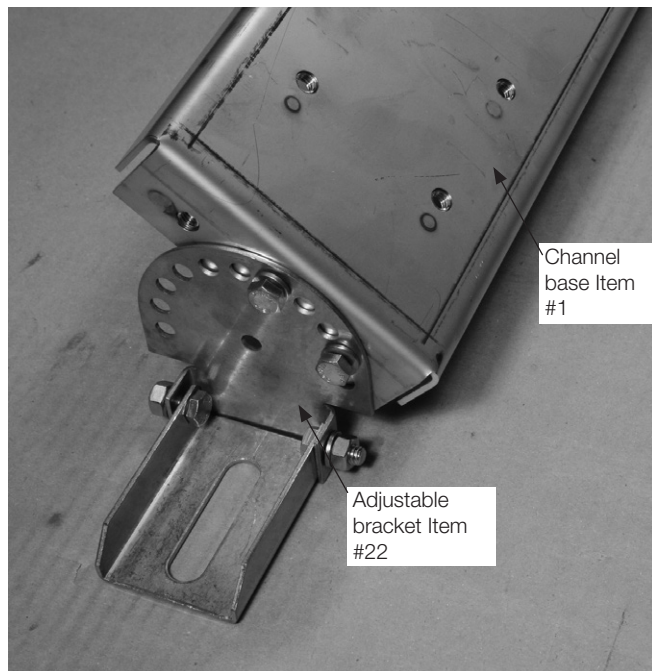

Figure 28. Adjustable foot bracket on standard channel base
2. Attach the adjustable bracket (Item 22) to the standard channel base (Item 1) using 5/16-18 X 5/8" hex-head bolts, 5/16" lock washers, and 5/16" nut (Items 23, 24, and 25). Attach the bracket to the side of the base at the center hole and either the left or the right hole on the base. On the adjustable bracket, any of the holes along the perimeter can be used for positioning the foot.) Refer to Figure 28.